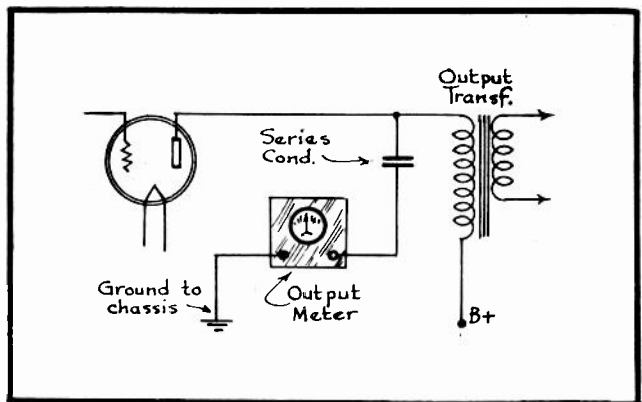

Fig. 1
1. - IN FIG. 1 YOU ARE SHOWN THE PROPER METHOD OF CONNECTING THE OUTPUT METER TO A RECEIVER WHICH IS EQUIPPED WITH AN OUTPUT STAGE EMPLOYING A SINGLE POWER TUBE AND WHERE A DYNAMIC SPEAKER IS USED.